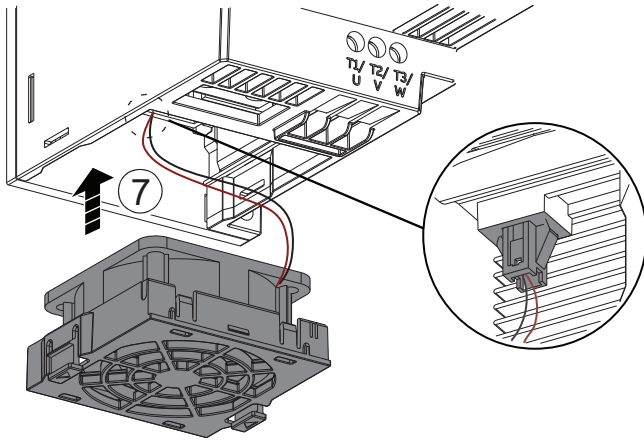

Fig. 15 — Connect Fan To Power
7. Connect the fan power cable. (See Fig. 15.)